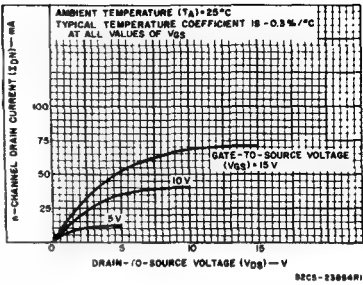

Fig. 5— Typical n-channel drain characteristics for Q output.
** If more than one unit is cascaded in single-phase parallel clocked application, t_{fCL} should be made less than or equal to the sum of the propagation delay at 15 pF, and the transition time of the output driving stage. (See Figs. 5 and 7 for cascading options.)